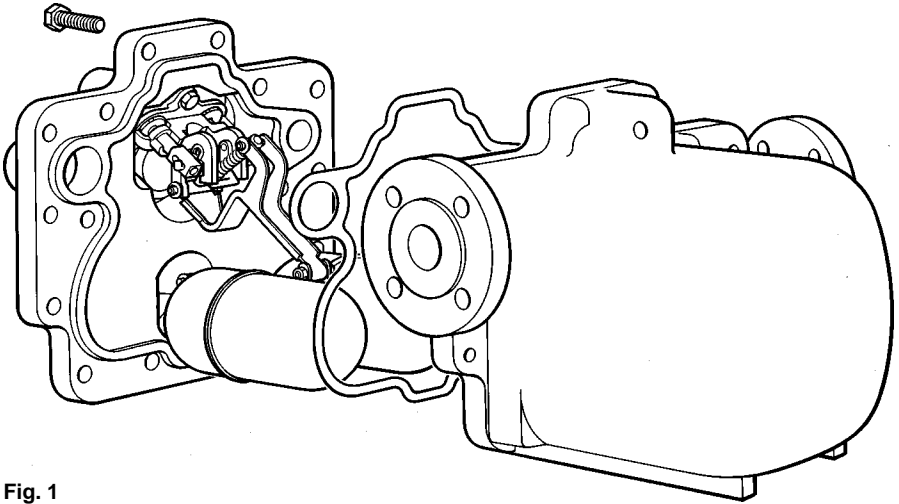

Fig. 1
1. Disconnect all connections to the cover. Remove the cover bolts using a 19 mm A/F socket, then carefully slide the cover assembly away from the body (250 mm minimum withdrawal distance will be needed). Lift the cover assembly to a bench or other convenient working surface and clamp securely, avoiding contact with the gasket face (See Fig. 1).